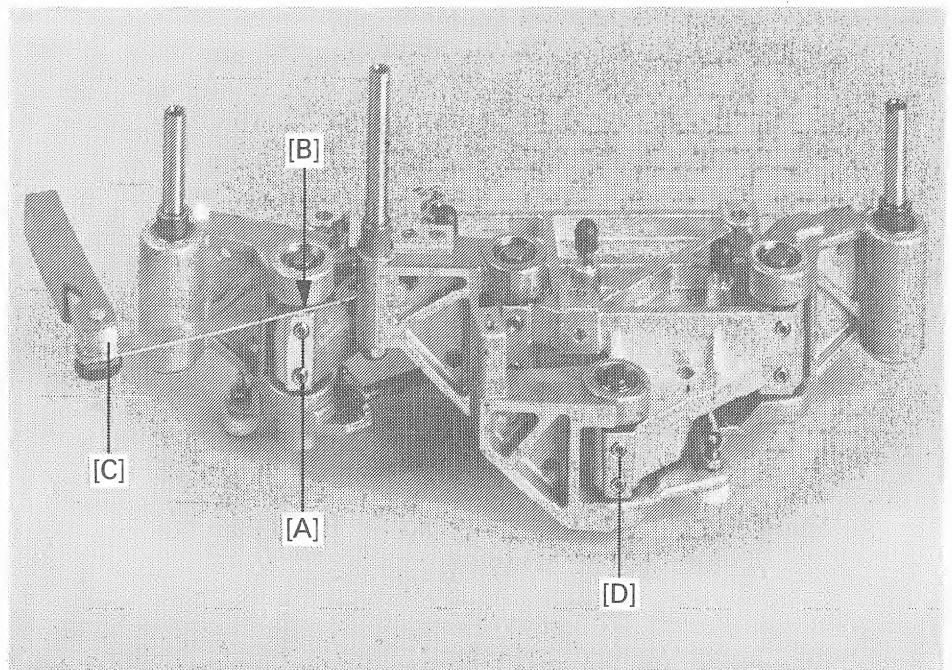

Fig. 3.1.30-11
4. When the correct roller height has been found, install the shims below the shaft shoulders (F), Fig. 3.1.30-22.
2. With the aid of the feeler gauge (C) measure the distance between the two die-cast aluminum parts at ELM 12, Fig.3.1.30-11 and write it down.
3. Unfasten the adjusting screws (A) of ELM 12.